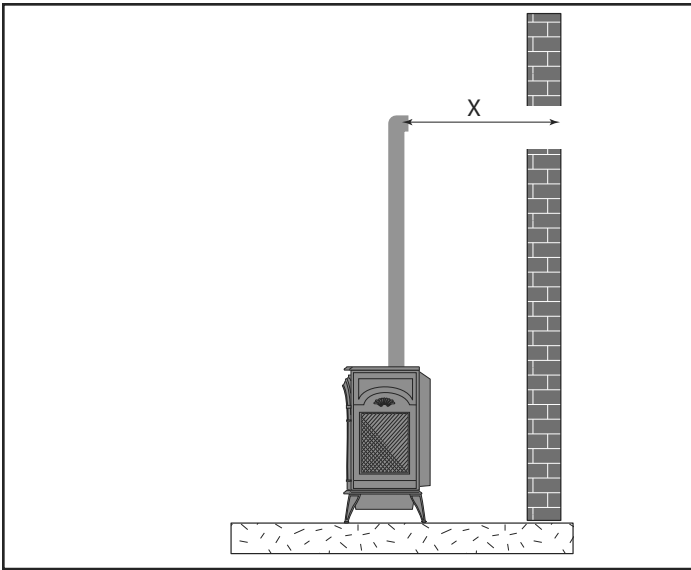

Figure 32 - Horizontal Length Requirement
5. Measure the horizontal length requirement including a 2" (51 mm) overlap, i.e. from the elbow to the outside wall face plus 2" (51 mm) (or the distance required if installing a second 90° elbow). Figure 32